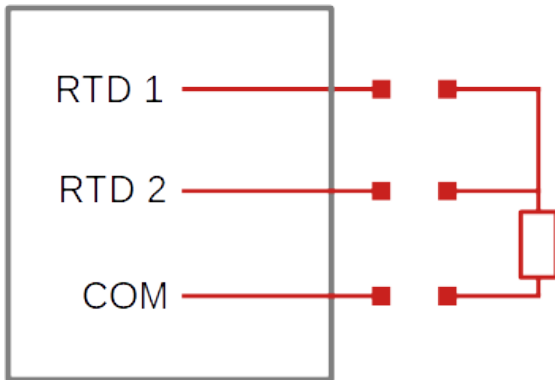

Figure 7 Pt100 input diagram
- The PT100 temperature input measures the resistance variation of the PT100 probe with the temperature (RTD, Resistance Temperature Detector), and offers the measurement in °C. The user must take into account that the input is not isolated (Figure 7).